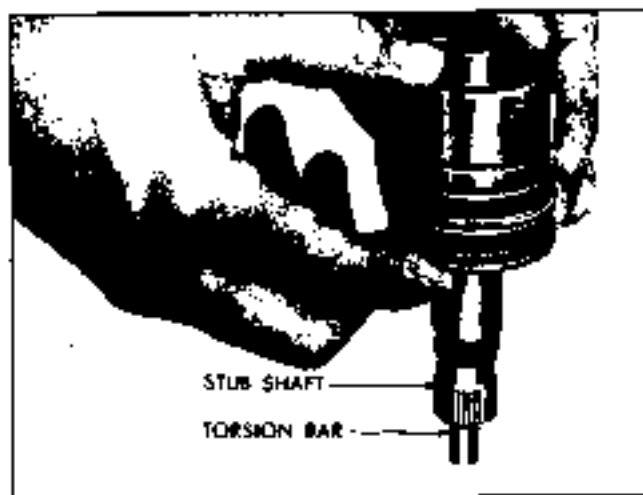

Fig. 9-63 Tapping to Loosen Valve Spool
2. Tap end of stub shaft assembly gently against workbench to remove valve spool (Fig. 9-63).